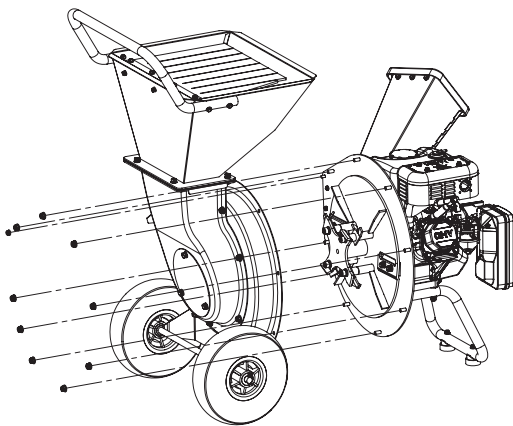

Figure 9
3. Detach the rotor housing and hopper from the rotor plate. SEE FIGURE 9